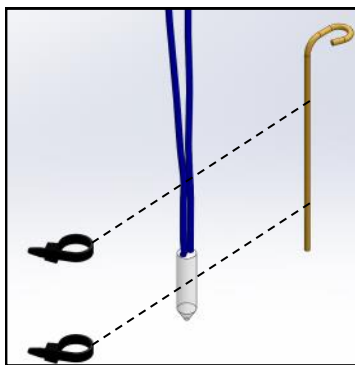

Figure 3
3. Drill 1" diameter hole in supply air (SA) duct. Attach SA dry bulb sensor on wire mount using two cable ties. Install sensor/mount in the duct using 1ea self-drilling screw (Figures 3, 4 and 5). Make sure SA sensor wires don't rub the edges of the sheet metal hole. Seal hole with HVAC